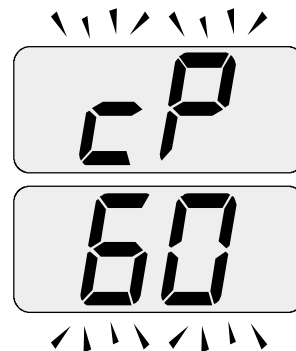

Fig. 8.8
- 20 Press key A to vary the output in chimney sweep mode: when the display shows the letters **cP** that alternate with the heating water temperature value (e.g. **60**), the "chimney sweep function" is at maximum output in heating mode (Fig. 8.8);